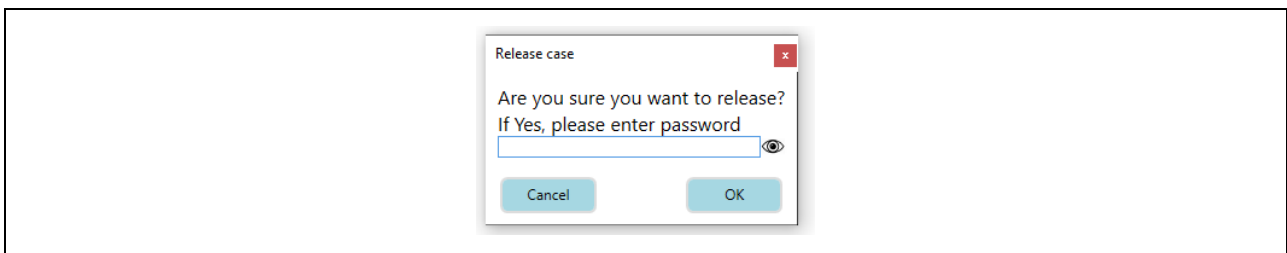

Figure 64: Physician Release
**Physician** user- to upload procedure final analysis to the server database click the **Release** button  on the specific procedure in your local files. A pop-up message appears, see Figure 64.